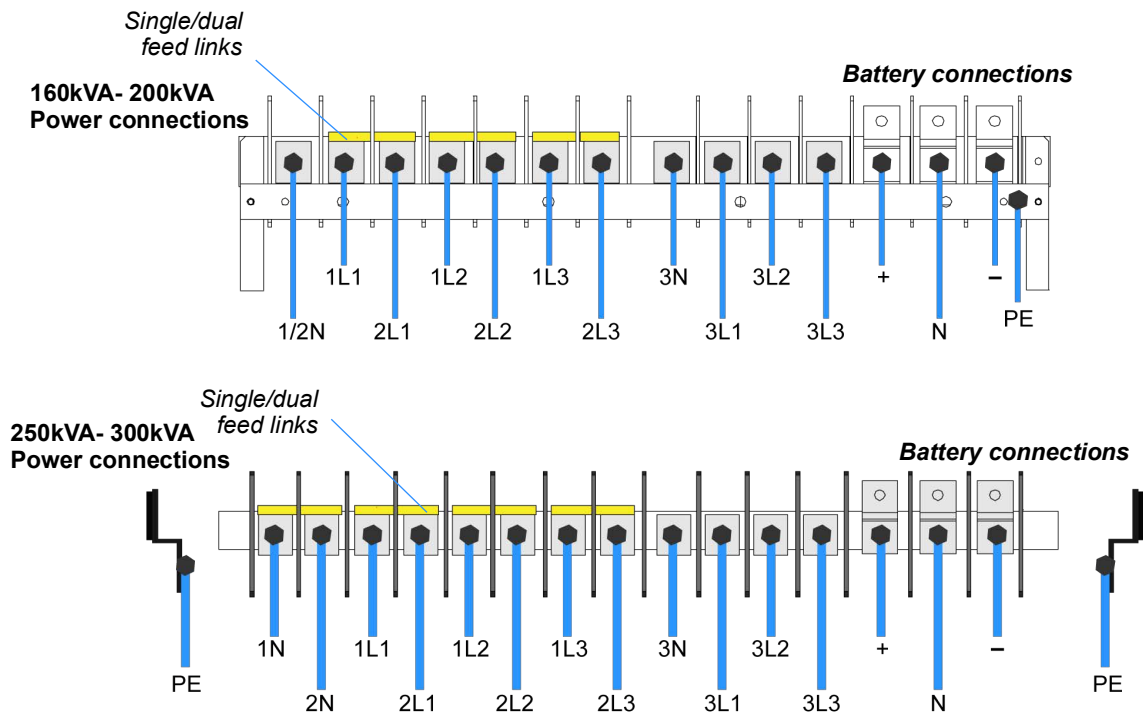

Figure 3.7 Power terminals
2. Connect the earth cable from the mains distribution board to the protective earth (PE) busbar, as shown in Figure 3.7.
Note: As standard, the UPS is supplied for single feed input operation, with links fitted between 1L1-2L1; 1L2-2L2; 1L3-2L3 (and 1N-2N on the 250/300kVA models) as shown in Figure 3.7.
7. Remove the links between 1L1-2L1; 1L2-2L2; 1L3-2L3 (and 1N-2N on the 250/300kVA models) – see Figure 3.7.
9. Connect the earth cable from the bypass mains distribution board to the protective earth (PE) busbar, as shown in Figure 3.7.
Note: For 160-200kVA modules connect the bypass neutral to the same neutral terminal (N) as that used for the input supply, as shown in Figure 3.7.
1. Connect the protective earth cable from the output (load) switchgear panel to the UPS output protective earth (PE) terminal, as shown in Figure 3.7.